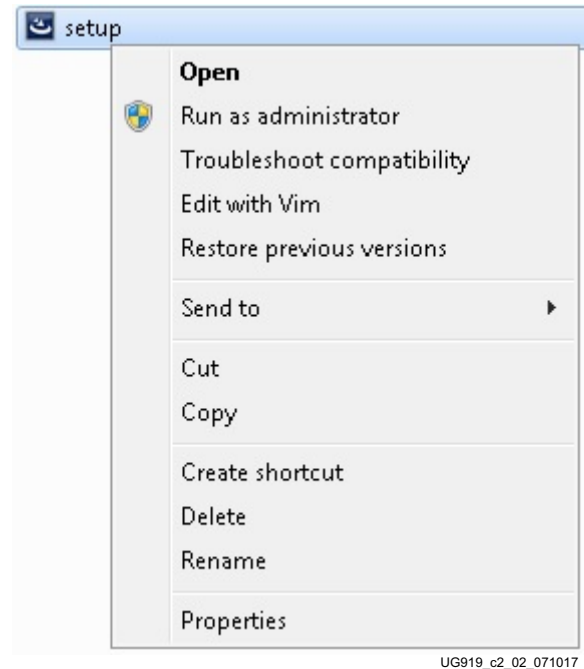

Figure 2-2: Run the Setup File with Administrator Privileges
1. From the Windows explorer, navigate to the folder in which the reference design is downloaded (<dir>\kcu105_aximm_dataplane\software\windows\) and run the setup file with Administrator privileges, as shown in Figure 2-2.